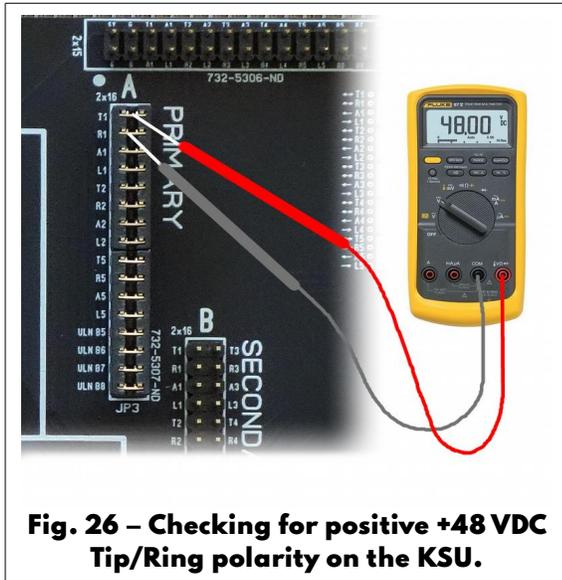

Fig. 26 – Checking for positive +48 VDC Tip/Ring polarity on the KSU.
5. Proper polarity should read **positive voltage** (approx. +48 Volts DC) on an idle phone line. (Fig. 26)